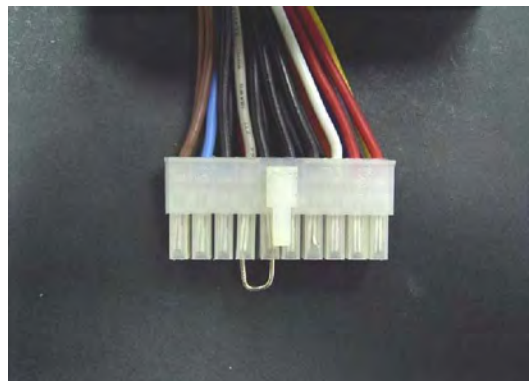

Figure 5-9
Step 2: If you are using ATX power, please short PS-ON and Ground on ATX power connector (As Figure 5-9), and turn on AC power switch of ATX power supply to let system boot up. If you are using AT power supply, you can simply turn on the power on AT power supply to boot up the system.